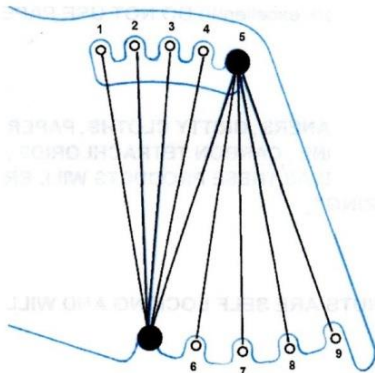

FIGURE 3
A. The fork bracket consists of a male and female clamp half. The two clamp halves are interchangeable on the "Standard", "Oversized", "Fat" or "WideGlide" tube hardware kits. There is a left and right male and female clamp half on the "tapered" hardware kits. First, wrap the fork tube just under the upper triple clamp with the thin rubber gasket supplied and interlock the male and female clamp around it so that the facing of the bracket is on the outside of the fork. (See figure 3) If needed, use the second or thicker gasket to make the clamp tighter. Put the 7/8" cap screws through the top and bottom holes on the clamps so the threaded stem is pointed away from the center of the motorcycle. Tighten with flange nuts so that the flange is facing away from the tube. (See figure 4) Insert rubber washers onto the threaded stem.